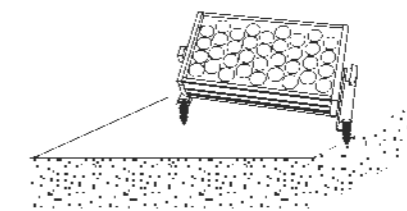

图 2/Picture 2
2. 将灯体安装到固定件上, 如图2所示, 并固定牢固.
2. Install the lamp body to fixed pieces, as shown in figure 2, and fixed tightly.